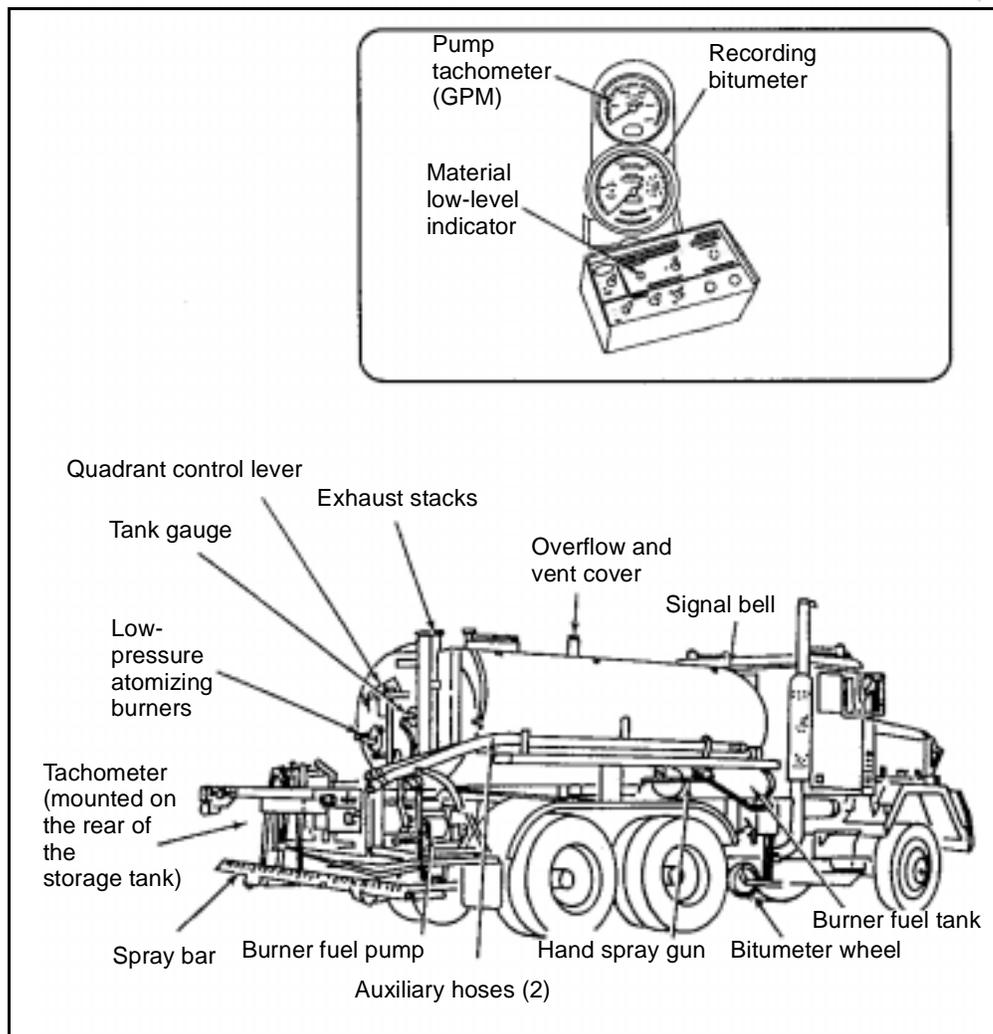

Figure 12-1. Army Asphalt Distributor
12-3. The Army asphalt distributor (*Figure 12-1*) is a truck-mounted unit. It has a 1,500-gallon insulated storage tank with a low-pressure heating system, a hydraulic-powered pumping unit mounted on the rear, and an adjustable spray bar for distributing bituminous material. To produce a uniform application, an asphalt distributor requires constant attention. It is critical that the asphalt heater and pump be well maintained. Calibrate all gauges and measuring devices properly (pump tachometer, measuring stick, thermometers, bitumeter, and so on). Use clean spray bars and nozzles and set them at the proper height above the surface receiving the application.
- The bitumen pump output. The pump tachometer dial in the cab of the truck (*Figure 12-1*) registers the pump output in GPM from the tachometer mounted on the rear of the storage tank.
12-7. **Bitometer.** The bitometer (Figure 12-1, page 12-2) has a small rubber-tired wheel mounted on a retractable frame under the distributor. A cable leads from the wheel to a dial in the truck cab. The dial registers the distributor's rate of travel in fpm and the travel distance in feet. Some bitometers, besides providing travel distance, correspondingly register the application rate in gallons per square yard. Check the bitometer at regular intervals to ensure accurate registering of speeds. The bitometer check procedure is as follows: